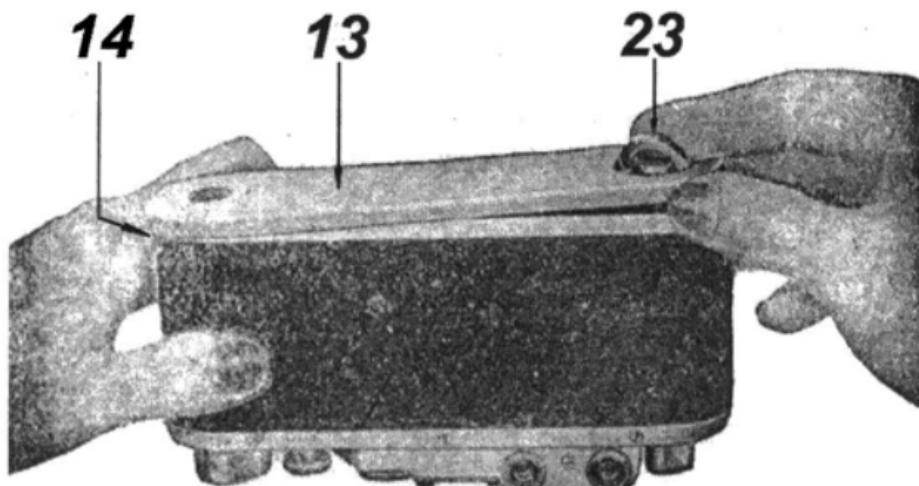

Fig. 2
23. Baseplate Locking Key (see fig 2)).
Take the camera as shown in fig. 2. Lift the key of the lock 23 and twist it counter-clockwise by half a turn. The arrow on the key will then point to «OTKРыто» = “opened”